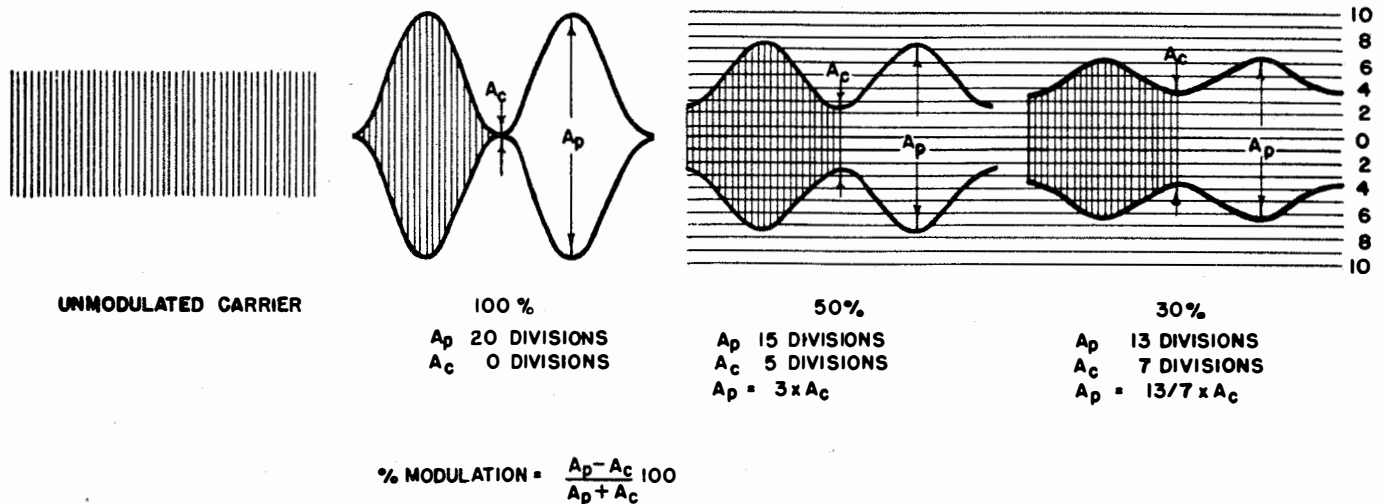

Figure 6-10. Percentage Modulation Chart
(See figure 6-10)
- (1) Set carrier frequency at 100 kc.
- (2) Set METER READS switch (S-102) to the % MOD.
- (3) Set MOD SELECTOR switch (S-103) for 400 cycles per second.
- (4) Set CARRIER RANGE switch (S-104) to the ABC position.
- (5) Feed the output from the X MULT RF OUTPUT jack (J-102) to the vertical input of a test oscilloscope.
- (6) Place a graduated celluloid screen over the face of the oscilloscope.
- (7) With the MULTIPLIER dial (I-104) and MICROVOLTS control (R-155), adjust the modulated signal amplitude to cover approximately 75 per cent of the face of the oscilloscope.
- (8) Adjust the % MODULATION control (R-111) on the front panel until 50 percent modulation is indicated on the oscilloscope (See figure 6-10.)
- (9) Adjust the Mod Sens control (R-134) until the
MODULATION DIODE.	<ol style="list-style-type: none"> 8. If the meter still does not respond to the % MODULATION control, feed the output signal from the X MULT RF OUTPUT jack (J-102) to a test oscilloscope. Set the carrier frequency at 100 kc. Place the METER READS switch (S-102) in the RF position. Advance the CARRIER CONTROL (R-123) in a clockwise direction until a reading of "100" is obtained on the upper meter scale. With the external modulation applied as in par. 7 above, the modulated pattern should appear on the oscilloscope (see figure 6-10). If it does, the trouble was in the modulation diode circuit.